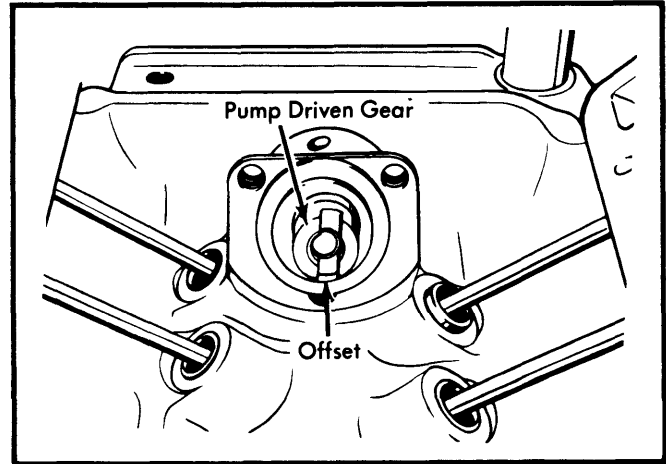

Fig. 6 View of Offset on Pump Driven Gear (Shown with Intake Removed)
2) Rotate engine to place No. 1 piston at TDC. Align mark on balancer with ZERO mark on indicator. See Fig. 6 for position of driven gear.